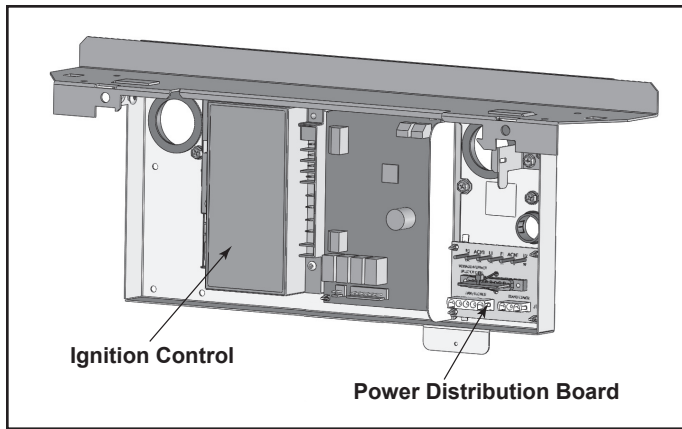

Figure 25. Power Distribution Board
1. Identify the power distribution board on the heater to the right of the ignition control on the raceway. See “Figure 25. Power Distribution Board” on page 24.